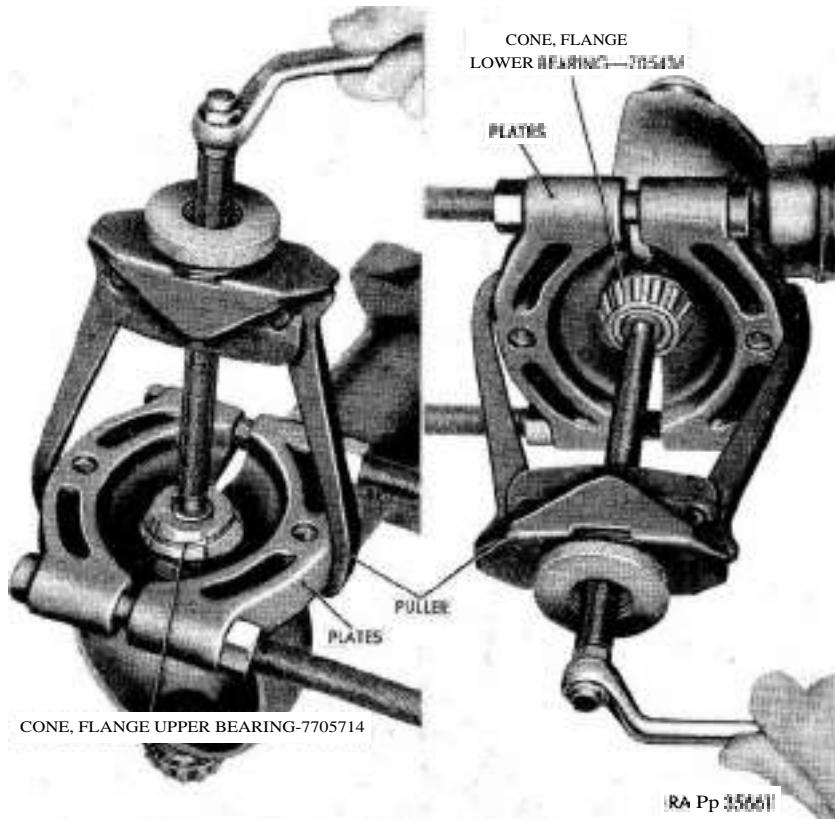

Figure 61. Removing -upper and lower flange bearing cones with puller.
j. Remove Flange Upper and Lower Bearing Cones. If inspection (par. 78b (4)) reveals that replacement of flange upper and lower bearing cones is necessary, remove cones and plates with a puller (fig. 61).